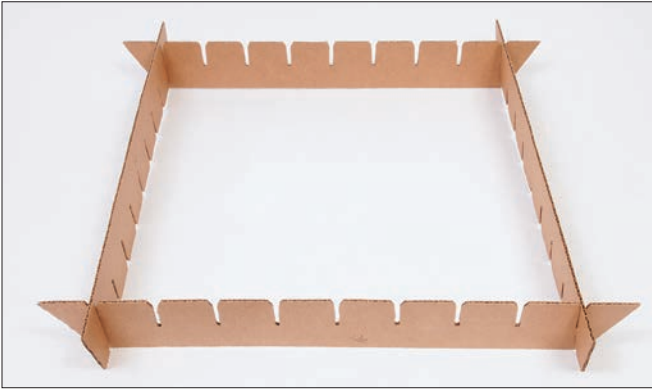

Figure 3
1. Using four cardboard grid pieces, make a box by interlocking the far-left and far-right slots of each piece (Figure 3). Make sure that top/bottom pieces are used for the top and bottom and side pieces are used for the sides.